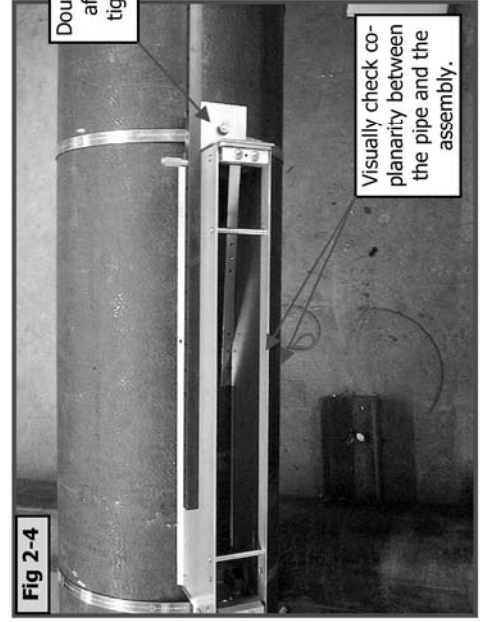

Fig 2-4
- D. Visually verify co-planarity with the pipe by comparing the top edge of the assembly to the linear axis of the pipe. Adjust if necessary. **See Fig 2-4**